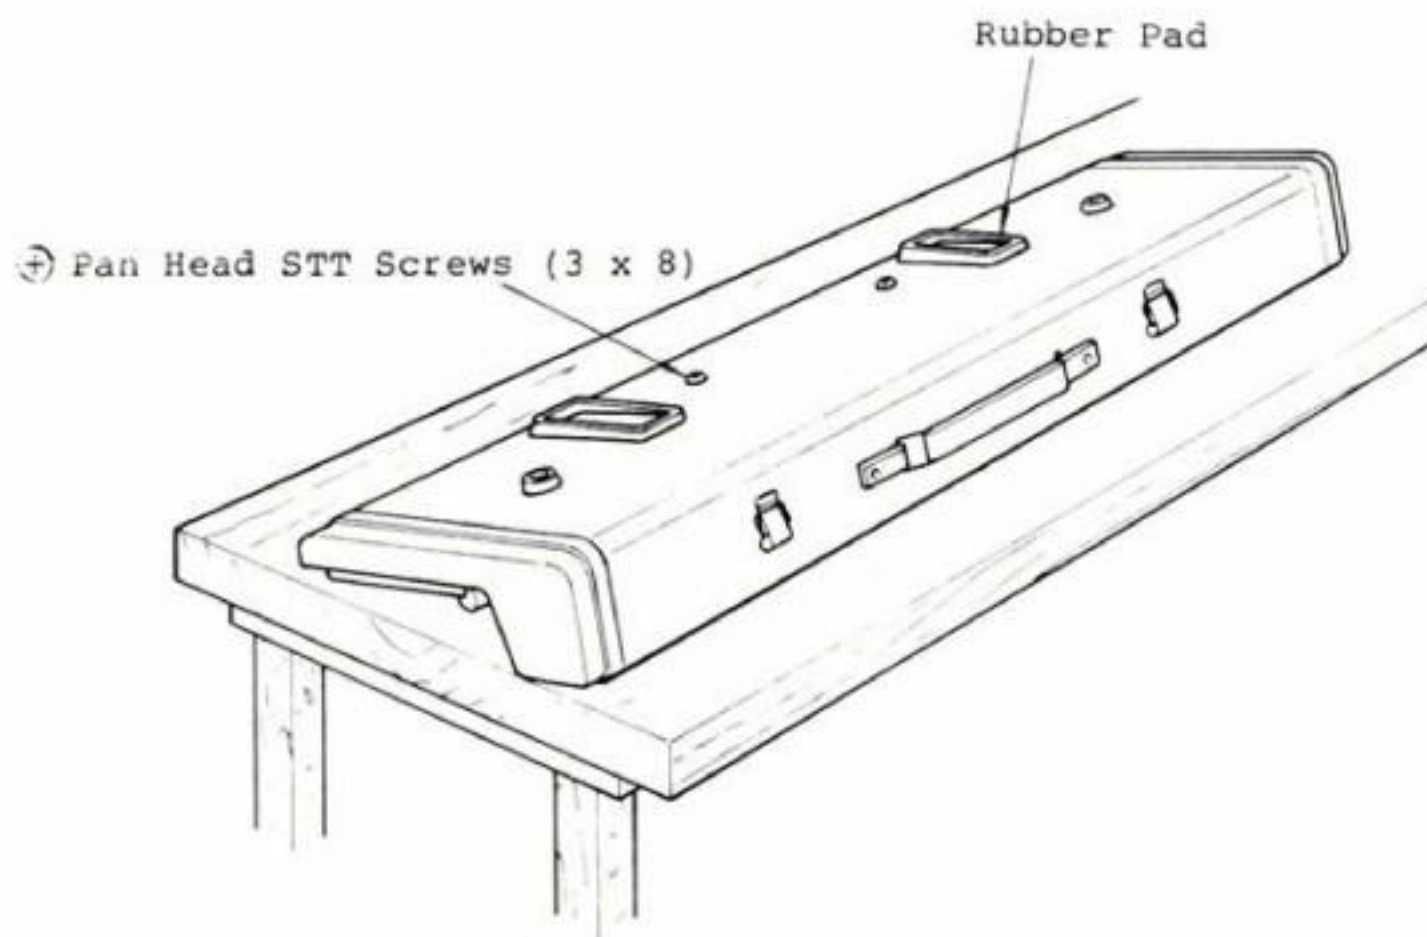

Fig. 17
1. Turn over the machine body, as shown in Fig. 17, and remove two ⊕ Pan Head STT Screws (3 x 8) located between the two Rubber Pads.